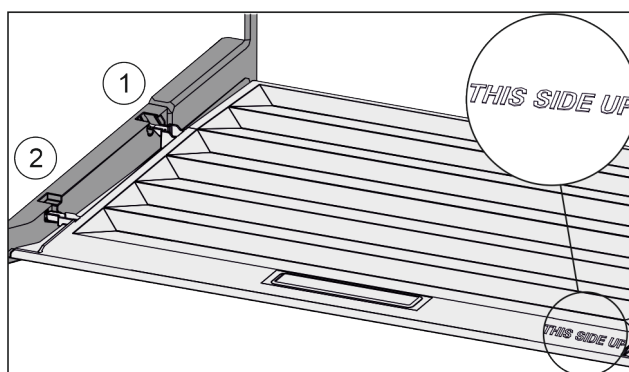

Fig. 171
- ▶ Insert the lip of the cover over the opening of the rear bracket Fig. 171 (1) and click into place Fig. 171 (2).